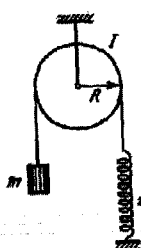

Fig. Q9b
- b) Find the frequency of small oscillations of the arrangement shown in Fig. Q9b. The radius of the pulley is R , its moment of inertia relative to the rotation axis is I , the mass of the body is m , and the spring stiffness is k . The mass of the thread and the spring is negligible, the thread does not slide over the pulley, there is no in the axis of the pulley.